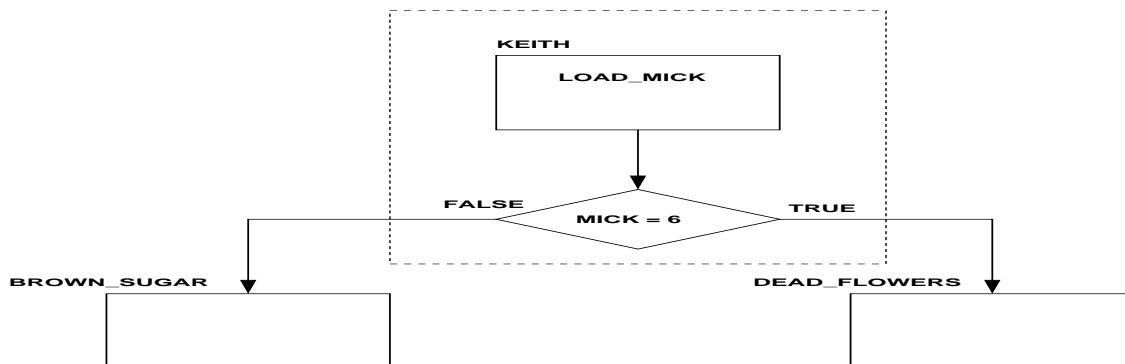

Figure 3: An ASM chart containing an error.
3. Consider a datapath which contains a register which has a control signal called “LOAD_MICK” which acts as a synchronous load control signal for the register. Explain by means of a timing diagram and in words the error contained in the following ASM chart (Figure 3) :